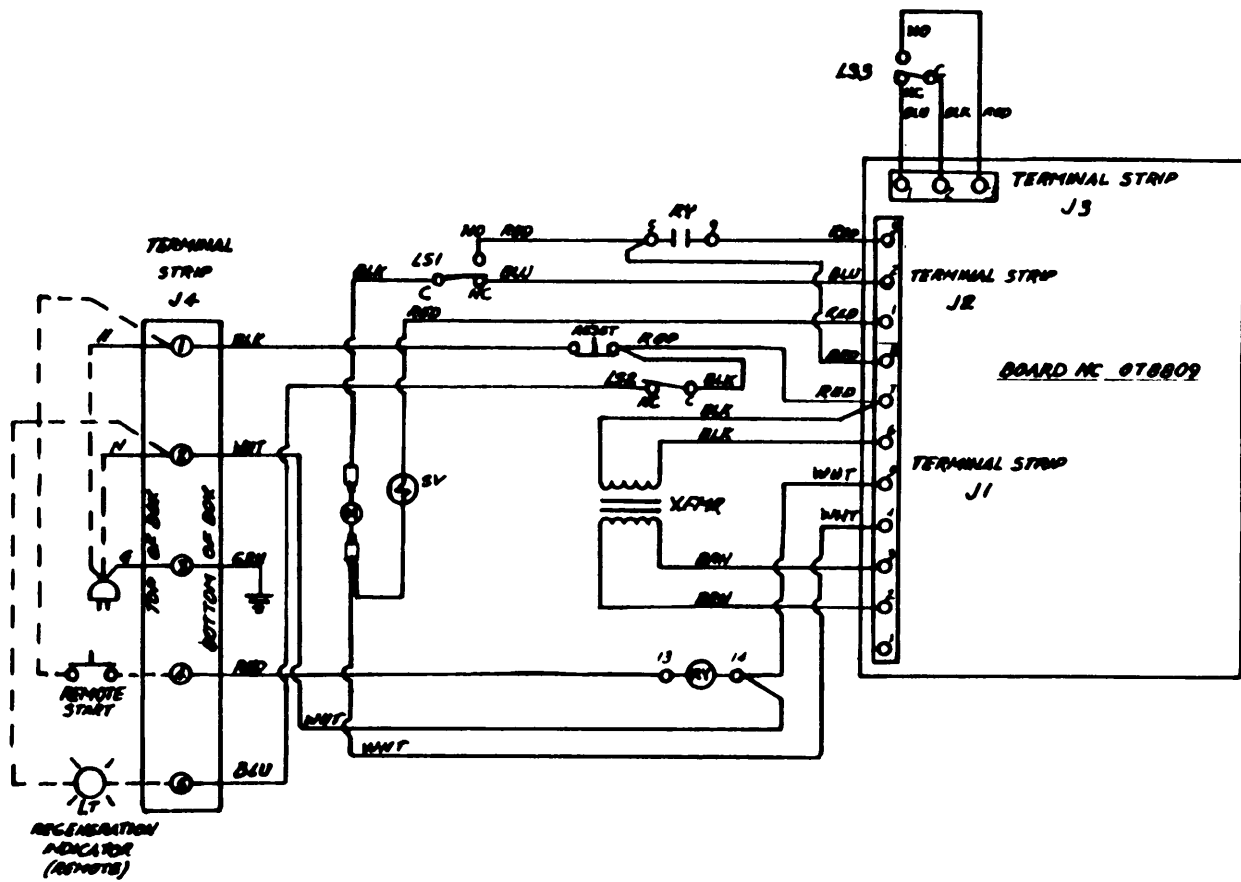
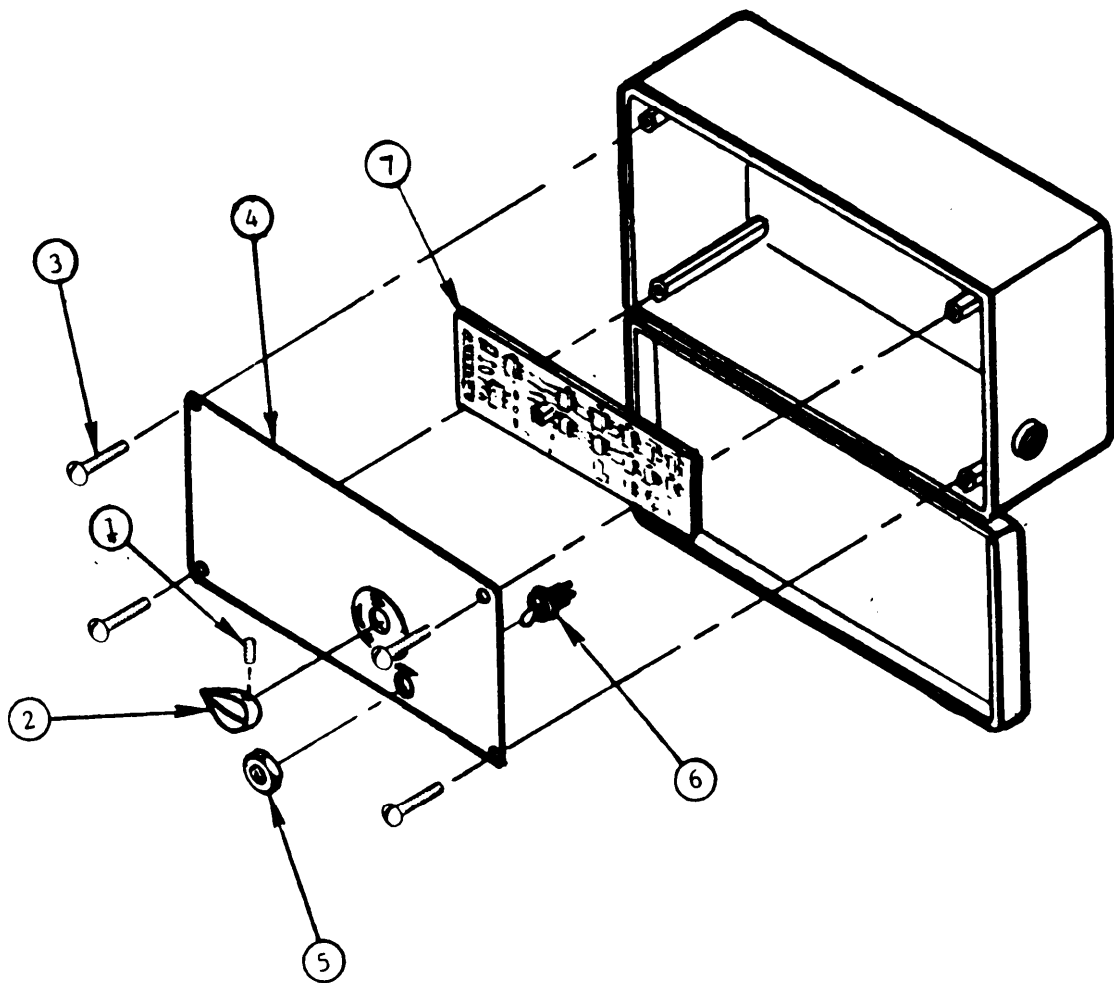
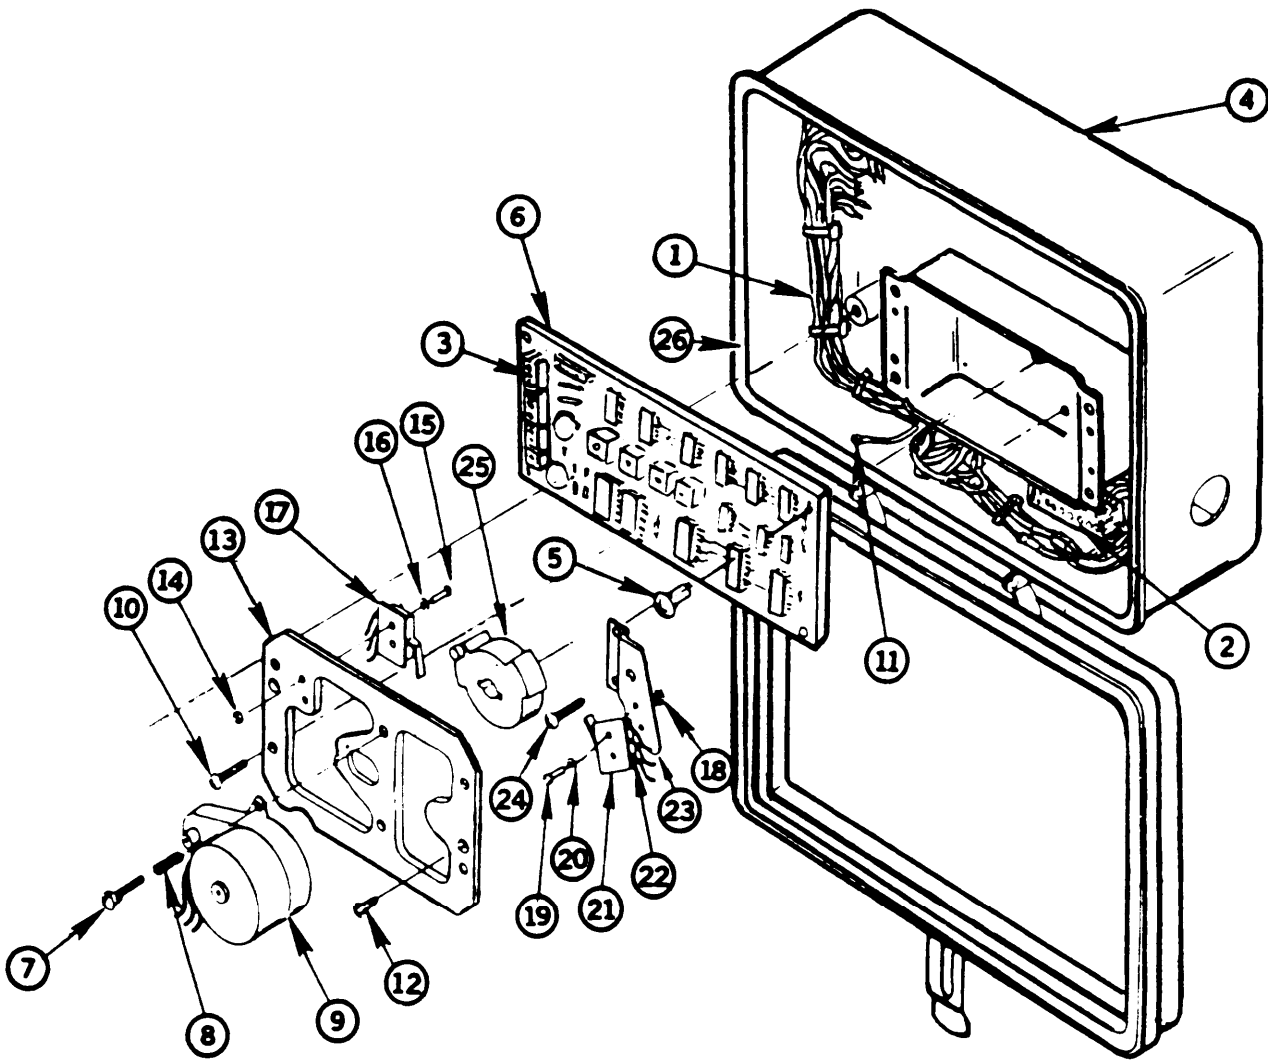

Figure 3-21. Backwash Timer (Schematic) (USMC)
Figure 3-22. Backwash Timer (Electronic) Sub-Plate Components (USMC)
Figure 3-23. Backwash Timer Printed Circuit Board and Timer Motor (Electronic)
a. General. The backwash timer automatically starts and ends the different stages of the backwash cycle of the multimedia filter. Each stage of the cycle time can be adjusted to suit a wide range of water types and operating conditions. This paragraph describes the disassembly, cleaning, inspection, repair, and reassembly of the solid state timer. Refer to (figure 3-21) for schematic.
- c. Sub-Plate Components Disassemble. (Figure 3-22)
- (1) Open timer cover.
- (2) Using Allen wrench, loosen get screw (1). Remove indicator knob (2).
- (3) Remove four panel retaining screws (3) and fold out sub-plate (4).
- (4) Remove retainer nut (5) and remove reset switch (6) from sub-plate (4).
- (5) Remove retainer nut (5) from switch (6).
- d. Printed Circuit Board and Timer Motor Disassembly. (Figure 3-23)
- (1) Identify, tag, and disconnect electrical wires (1) from terminal strips (2) and (3) in timer box (4).
- (2) Remove five screws (5) and printed circuit board (6) from timer box (4).
- (3) Remove two screws (7), two compression springs (8) and timer motor (9) from timer box (4).
- (4) Remove four screws (10), ground lug (11), two screws (12), and plate (13) from timer box (4).
- (5) Remove two nuts (14), two screws (15), two washers (16), and micro switch (17) from plate (13).
- (6) Remove two nuts (18), two screws (19), two washers (20), two insulators (21), and micro switch (22) from bracket (23).
- (7) Remove two screws (24) and bracket (23) from timer box (4).
- (8) Remove white controller cam (25) from timer box (4).
- (9) Remove gasket (26) from around edge of timer box (4). Discard gasket (26).
- (1) Replace all gaskets, seals, and O-rings.
- (2) Replace all damaged nuts, bolts, screws, and washers.
- (3) Repair or replace damaged timer case.
- (4) Replace damaged terminal block.
- (5) Replace damaged P.C. board.
- (6) Replace unserviceable timer motor.
- (7) Replace damaged or unserviceable micro switches.
- (8) Replace damaged cam.
- (9) Replace all damaged, cracked, or bent switch insulators.
- (10) Replace all damaged pipe fittings.
h. Printed Circuit Board and Timer Motor Reassembly. (Figure 3-23)
- (1) Install new gasket (26) around edge of timer box (4).
- (2) Install white controller cam (25) in timer box (4).